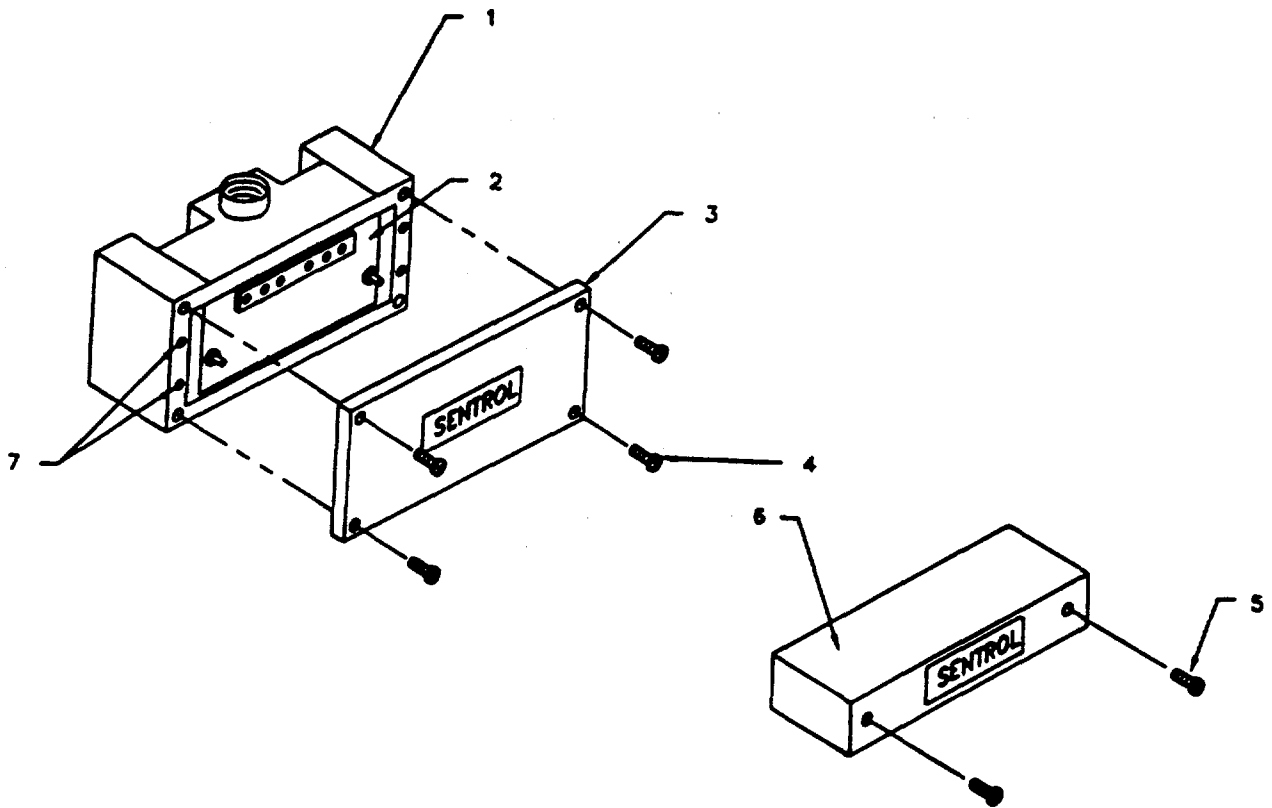

Figure 3-61. Removal and Replacement of Balanced Magnetic Switch Assembly
**3-113. REPLACE BALANCED MAGNETIC SWITCH, SENTROL 2800T SERIES. (Figure 3-61).**